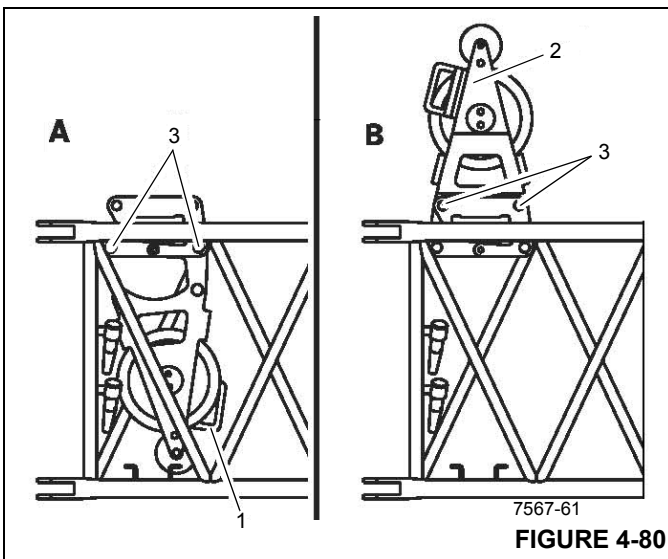

FIGURE 4-80
1. Remove the retaining clips from the pins (3) (Figure 4-80).
2. Hold the deflection sheave by the handle (1) and pull out the pins (3).
3. Fold the deflection sheave up by the handle (1) and insert the pins (3).